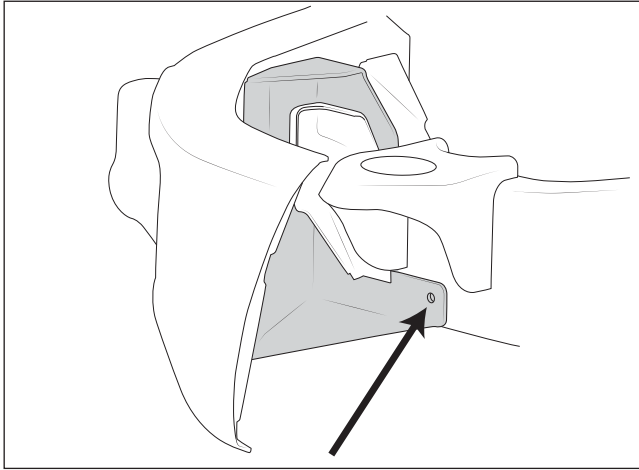

Figure 23
3. Once the bumper is aligned, drill a 3/8" hole into the frame using the outer bumper bracket as a guided (fig. 23). Apply a rust inhibitor to all bare metal.